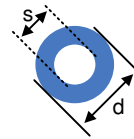

Figure 10-2. Thermal Pad Layout Recommendation
- The thermal pad should be tied to the PCB ground plane with a minimum of 25 vias. See Figure 10-2 for an example.